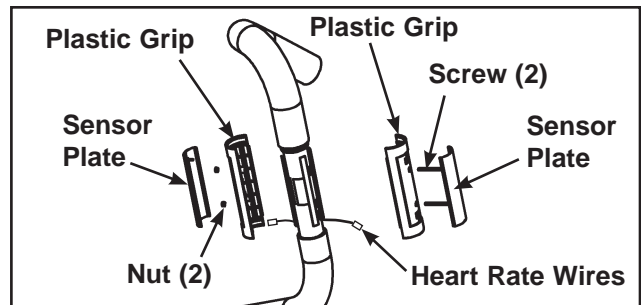

Figure 2
- A. With a flat head screwdriver carefully pry off each metal sensor plate from grip and disconnect both heart rate wires. See Figure 2.
- B. Using a phillips screwdriver, remove the two screws and two nuts securing the grip in place. See Figure 2.